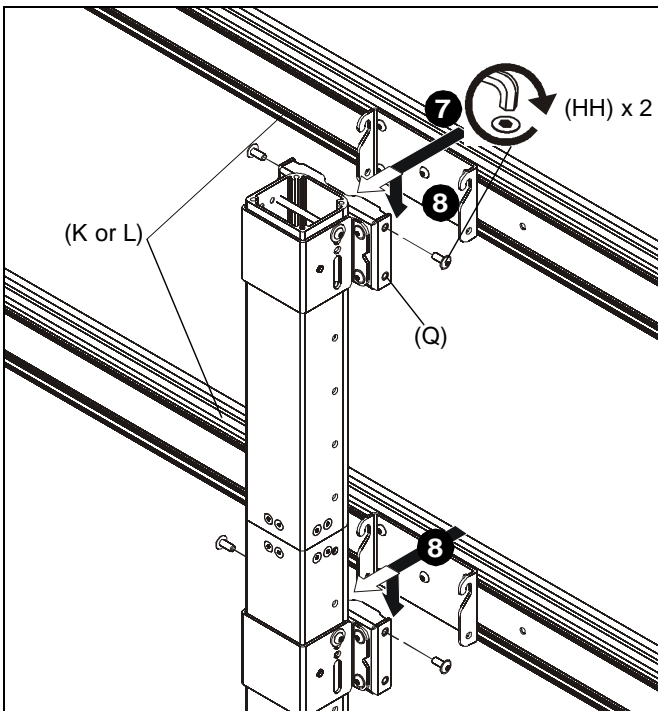

Figure 6
7. Install two 5/16-18 x 3/4" button head flange screws (HH) into the top holes on each quick connect base (Q). (See Figure 6)
8. Hang rails (J, K or L) into screws installed in previous step to quick connect bases (Q). (See Figure 6)